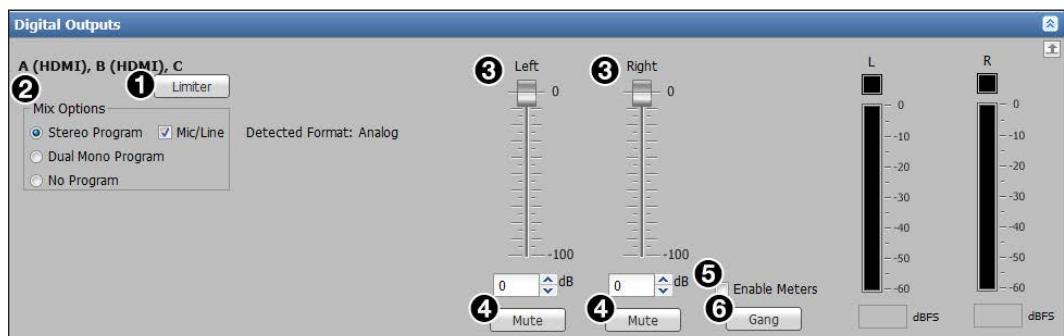

Figure 78. Digital Audio Output Section (IN1608 Series)
2. If desired, click the **Mic/Line** check box (see **figure 78**, ② on page 109) to include the mic/line inputs in the output.
3. In the Mix Options panel (see **figure 78**, ②), click the desired radio button:
3. For the desired group master, click the corresponding drop-down menu (see figure 78, ①) to display a list of available group members.
3. From the Front Panel Volume Knob list (see figure 78, ②), select the desired volume control the front panel volume knob adjusts. The available options are: